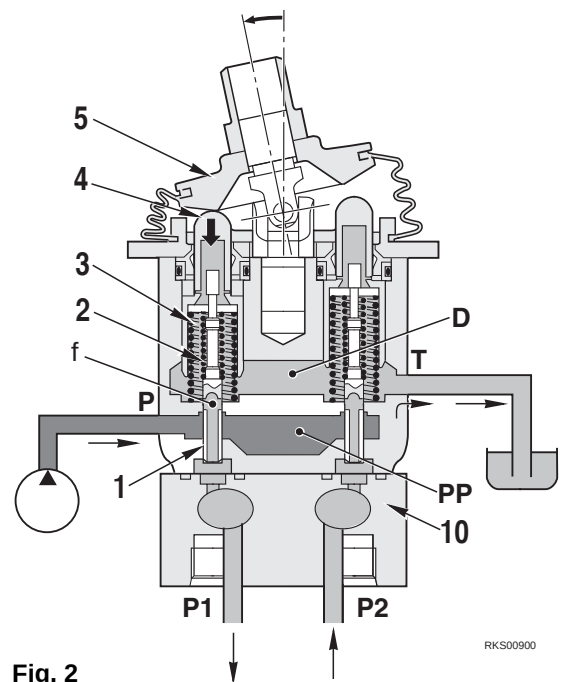

Fig. 2
- When piston (4) starts to be pushed by disc (5), retainer (9) is pushed; spool (1) is also pushed by metering spring (2), and moves down. When this happens, fine control hole **f** is shut off from drain chamber **D**, and at almost the same time, it is connected to pump pressure chamber **PP**, so pilot pressure oil from the control pump passes through fine control hole **f** and goes from port **P1**. When the pressure at port **P1** becomes higher, spool (1) is pushed back and fine control hole **f** is shut off from pump pressure chamber **PP**. At almost the same time, it is connected to drain chamber **D** to release the pressure at port **P1**. When this happens, spool (1) moves up or down so that the force of metering spring (2) is balanced with the pressure at port **P1**. The relationship in the position of spool (1) and body (10) (fine control hole **f** is at a point midway between drain hole **D** and pump pressure chamber **PP**) does not change even if the pressure at port **P1** becomes max. Therefore, metering spring (2) is compressed proportionally to the amount of movement of the control lever, so the pressure at port **P1** also rises in proportion to the travel of the control lever. (Fig. 2)